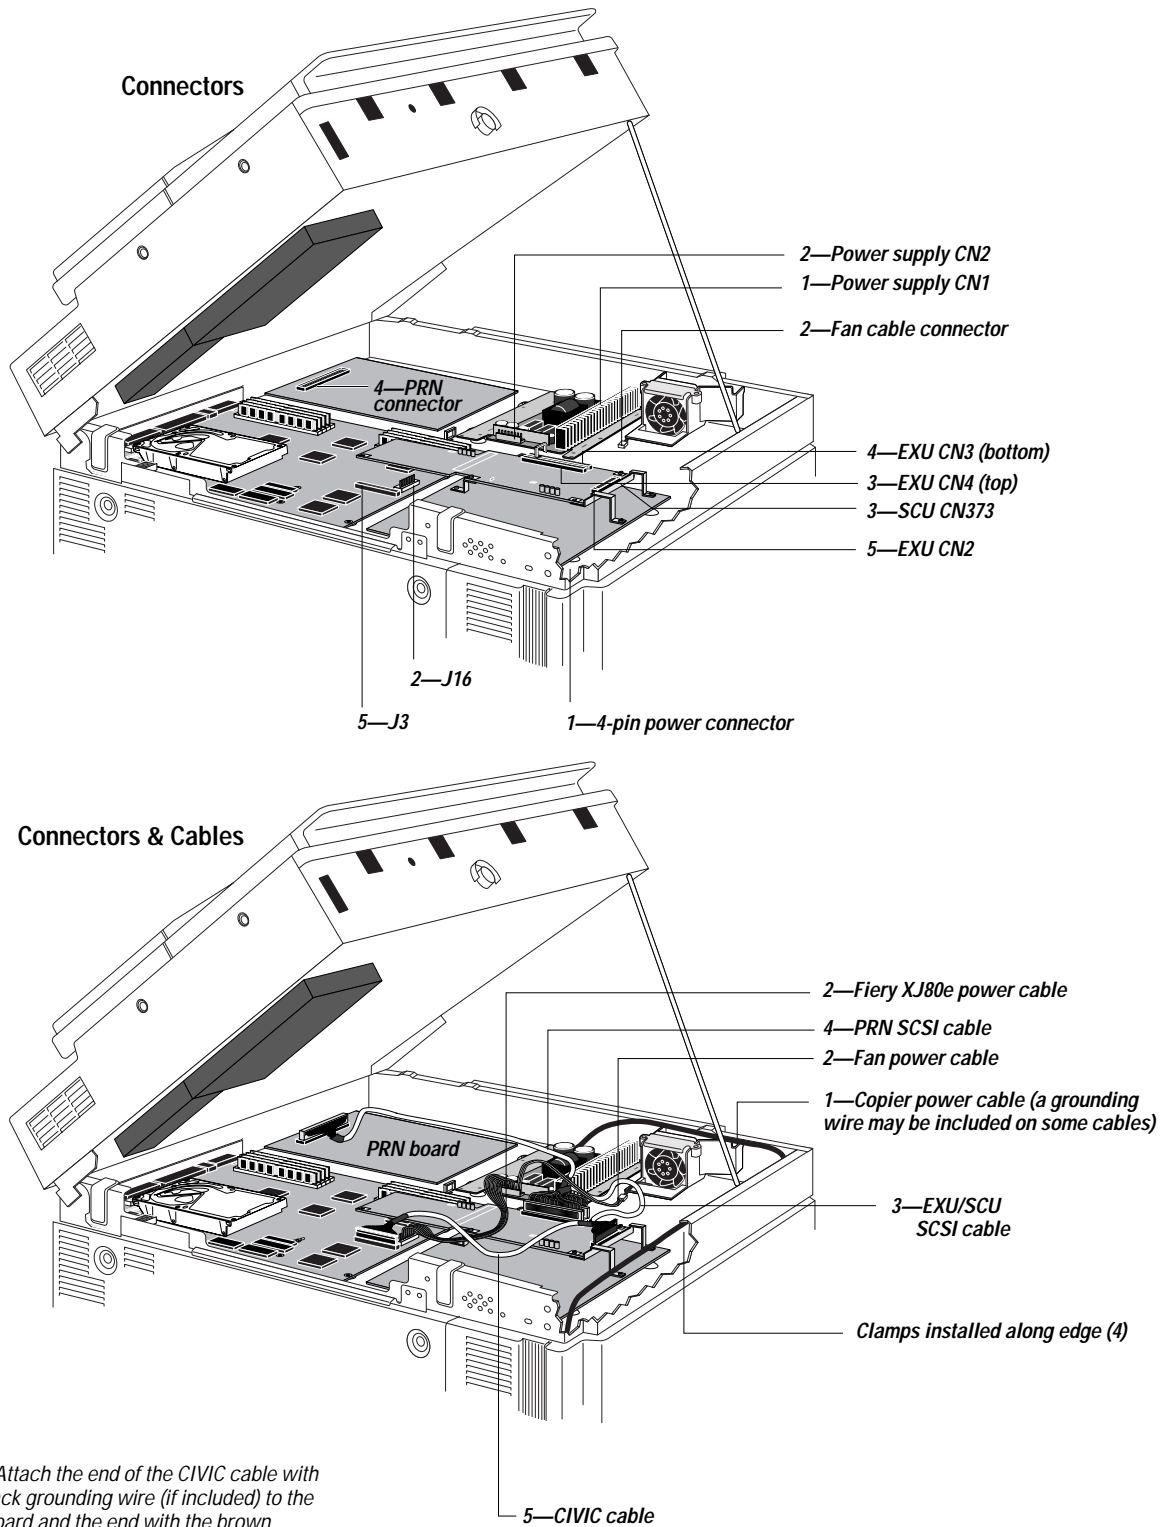

Figure 3-17 Cable connections and ground points
3. *Install the 4 clamps into the holes at the front of the PRN box (see Figure 3-17 on page 3-21).*
4. *Connect the cables as detailed in the following table and Figure 3-17 on page 3-21.*